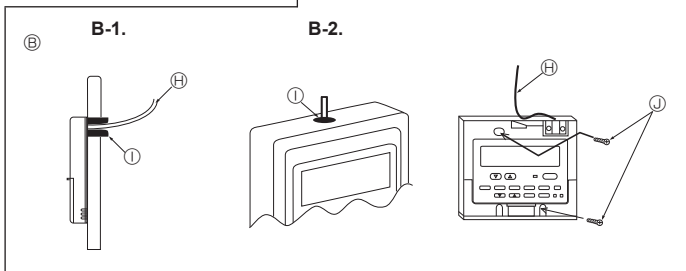

Fig. 7-7
- ① Remote controller profile
- ② Required clearances surrounding the remote controller
- ③ Installation pitch
- (2) Seal the service entrance for the remote controller cord with putty to prevent possible invasion of dew drops, water, cockroaches or worms. (Fig. 7-7)
① For installation in the switch box:
- ② For direct installation on the wall select one of the following: